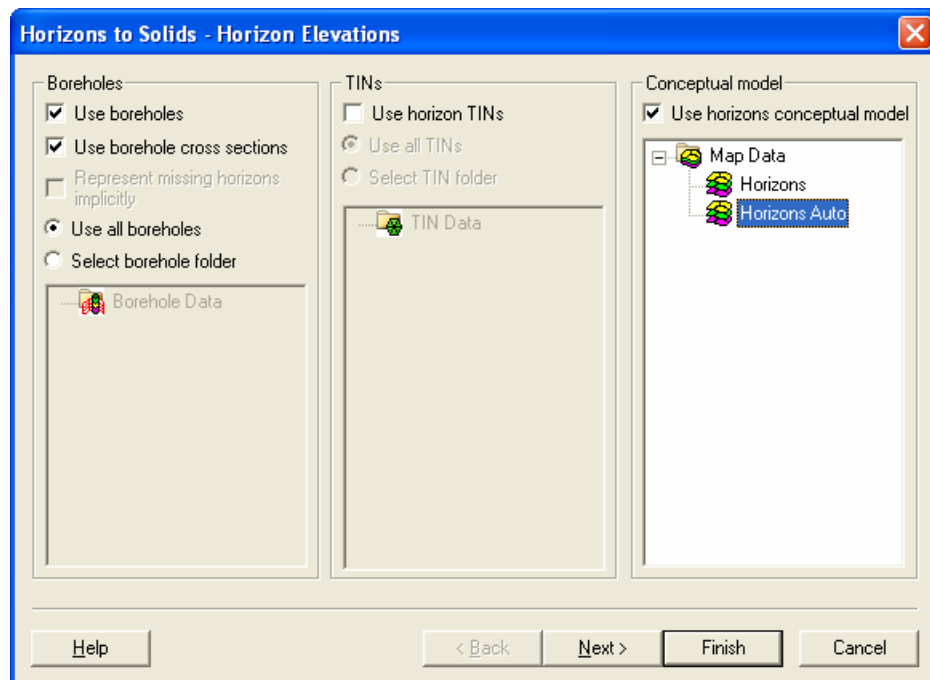

Figure 8.1. Horizons -> Solids, using a horizon conceptual model.
3. Select the options as shown in Figure 8.1 and click *Finish*.